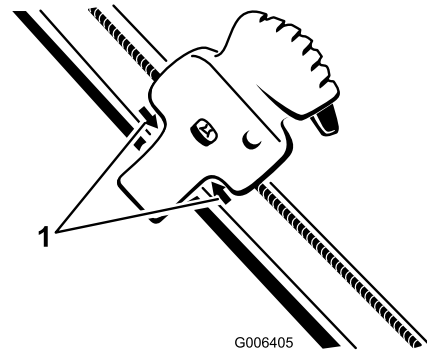

Figure 32
2. Position the Quick Shoot control between the 2 arrows located on the right side of the upper handle (Figure 32).